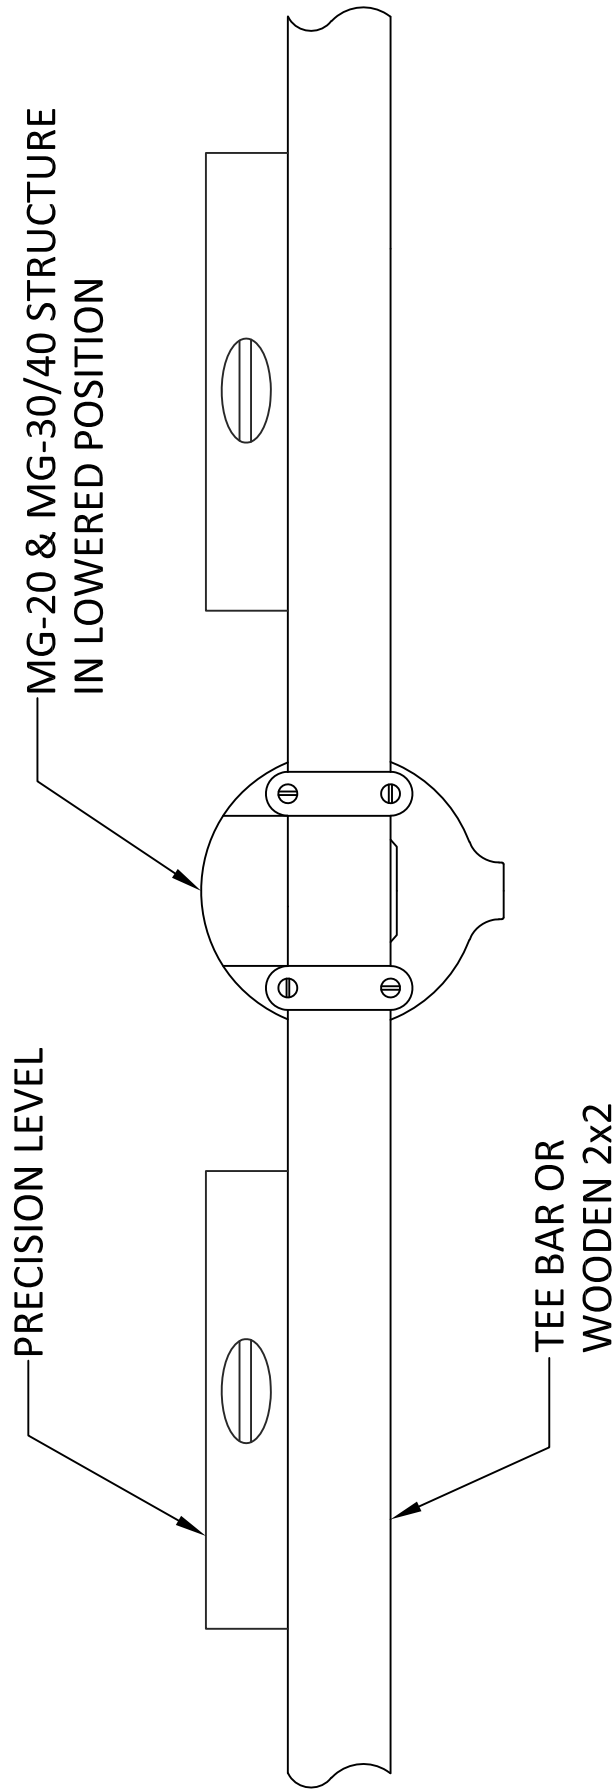
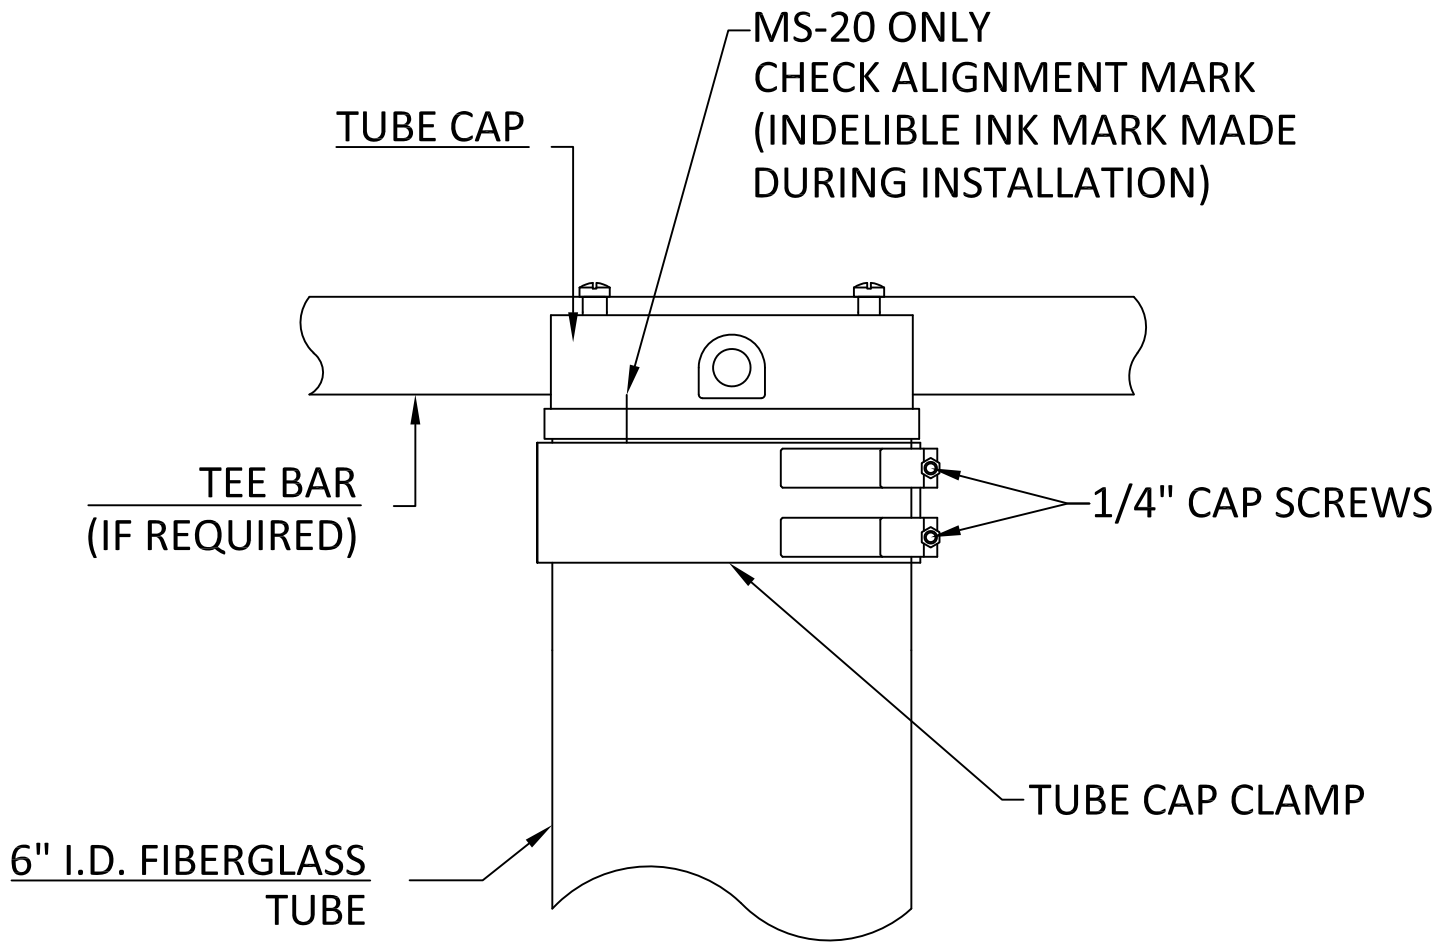

FIGURE 6-13
FIGURE 6-14
- B.** To check the perpendicularity of Tee Bars, lower LIR structure (See Section 3 for lowering and raising instructions). For MG-20 and MG-30/40 LIR structures with Tee Bars, place a 15” (min.) precision level on the Tee Bar near the Tube Cap (see Fig. 6-13). For Mg-20 and MG-30/40 LIR structures without Tee Bars, place a straight 3 ft. length of wooden 2 x 2 across the tube cap slot and then place the precision level on the wooden 2 x 2. Near the tube cap (See Fig. 6-13) check levelness on both sides of tube cap. For MS-20 LIR structures check that mark on tube cap is aligned with mark on 6” I.D. fiberglass tube. A alignment of marks indicates that tube cap is correctly positioned (See fig. 6-14). To adjust tube cap
simply loosen the two $\frac{1}{4}$ " cap screws on the tube cap clamp with a $\frac{3}{16}$ " Allen wrench (See fig. 6-14). Adjust tube cap to desired position and tighten the $\frac{1}{4}$ " cap screws on the tube cap clamp.